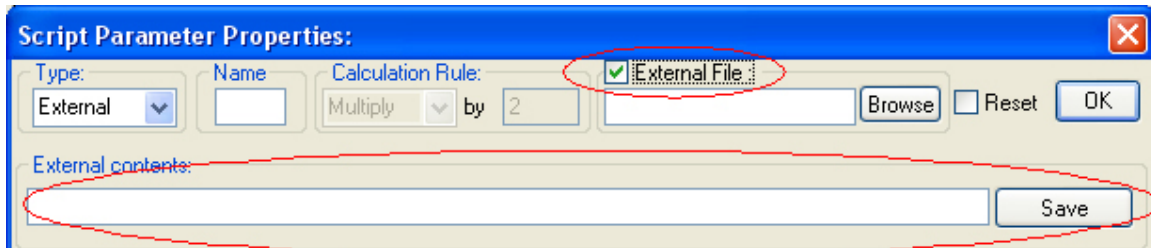

Figure 13: The External File check box must be selected to open the External Controls Tool bar.
- iv. Check the “External File” checkbox and an “External Contents” bar will appear as shown in Figure 13.